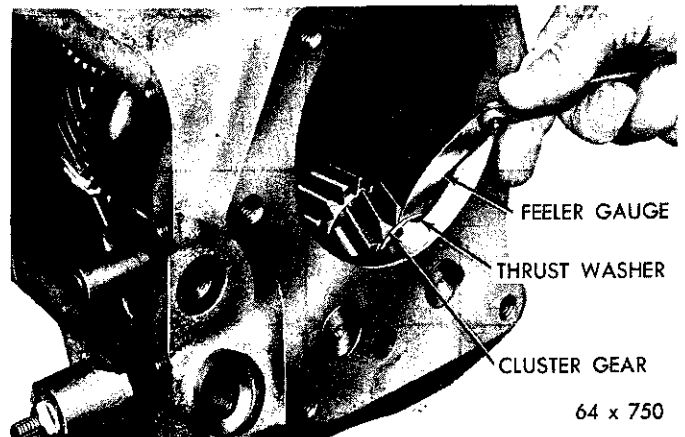

Fig. 16—Measuring the Cluster (Countershaft) Gear End Play
(8) Using a shim stock feeler gauge, measure the end play of the countershaft gear, by inserting the gauge between the thrust washer and the gear, as shown in Figure 16. This measurement should not exceed .0045 to .028". If measurement is greater than that specified, new thrust washers must be installed at reassembly.
Using a shim stock feeler gauge, measure the end play of the countershaft by inserting the feeler gauge between the thrust washer and the gear (Fig. 16). This measurement should not exceed .0045 to .028 inch.